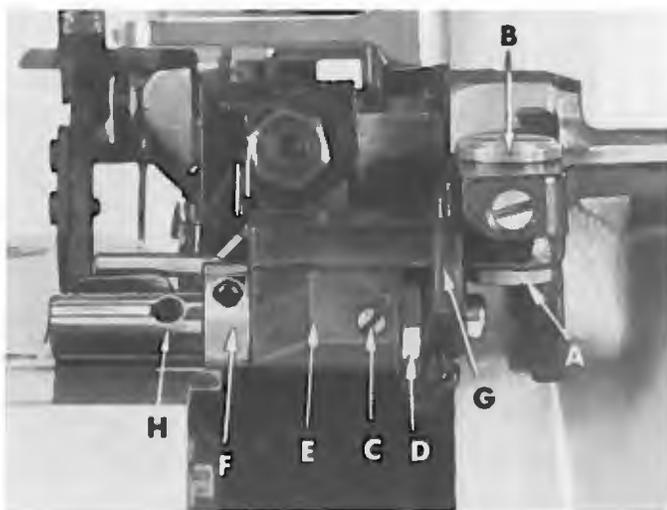
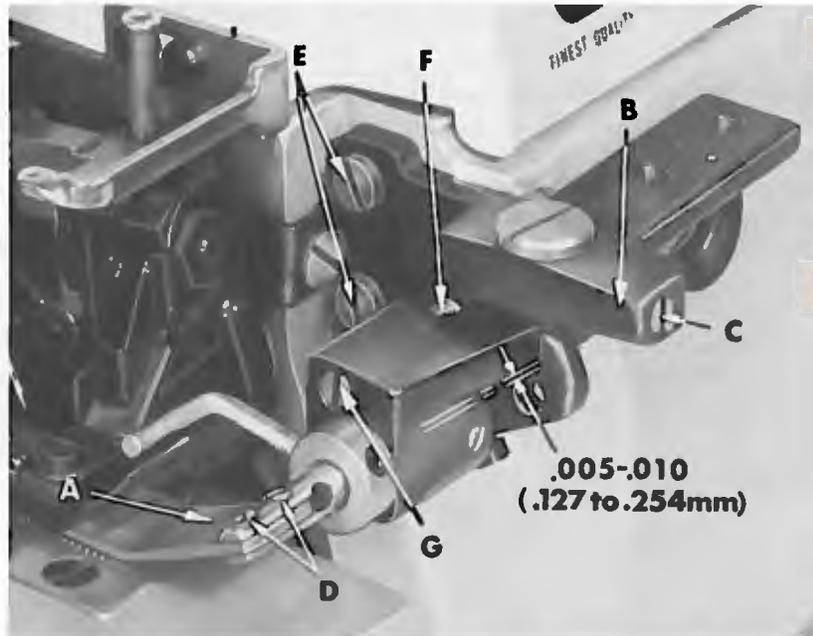

Fig. 18
Fig. 19
1. Swing the pressure plate assembly in and out of its operating position and check to assure that it hinges freely on its pivot. If not, loosen lock nut (A, Fig. 18) and adjust shoulder screw (B) for smooth operation.
2. Loosen set screw (C, Fig. 18) and turn the shaft collar (D) counter-clockwise (viewed from the left side of machine) using the spanner wrench provided, so there is some tension on the tension spring located in the shaft bracket (E) and the pressure plate (A, Fig. 19) is forced down slightly.
3. Adjust tension spring, located in the mounting bracket (B, Fig. 19)
4. With the feed dogs down, look horizontally between the pressure plate and the throat plate from the front of the machine to assure that the pressure plate lies flat on the throat plate. If not, loosen the two screws (D, Fig. 19) which hold the pressure plate (A) and adjust flat to the throat plate.
5. Raise or lower the mounting bracket (B, Fig. 19) by loosening screws (E) so that, from the side, the pressure plate is parallel and flat on the throat plate. Retighten screws (E).
6. Adjust screw (F, Fig. 19) so that the front edge of the pressure plate is square to the feed dog teeth. Lock with screw (G).
7. Center pressure plate over the feed dogs by loosening the screws in the actuating collar (F, Fig. 18) and the operating lever (G), and then adjust shaft (H) laterally as required.
8. When retightening operating lever screw make sure that the feed dogs and the pressure plate are down, then tighten operating lever screw leaving approximately .005 to .010 inch (.127 to .254 mm) clearance (See Fig. 19) between operating lever and shaft bracket (E, Fig. 18).
9. With feed dogs up, check from the left side to see if the clearance between the pressure plate and the presser foot is wide enough to allow the largest seam pass. If not, adjustment can be made by loosening screws (E, Fig. 19) and moving the mounting bracket (B) straight toward the operator. Retighten screws (E). Recheck Step 4.
10. The actuating collar (F, Fig. 18) should now be set so that, throughout one revolution of the machine, the minimum distance between the lifter rod and the presser foot is 1/32 inch (.79 mm). The lifter rod should be set to clear the tip of the presser foot if it is important that the shirring mechanism can be swung away without moving the presser foot away first.
11. Loosen set screw (C, Fig. 18) for final adjustment of pressure plate tension spring. Turn shaft collar (D) with spanner wrench until desired tension is acquired to obtain a uniform shirr. Retighten set screw (C).